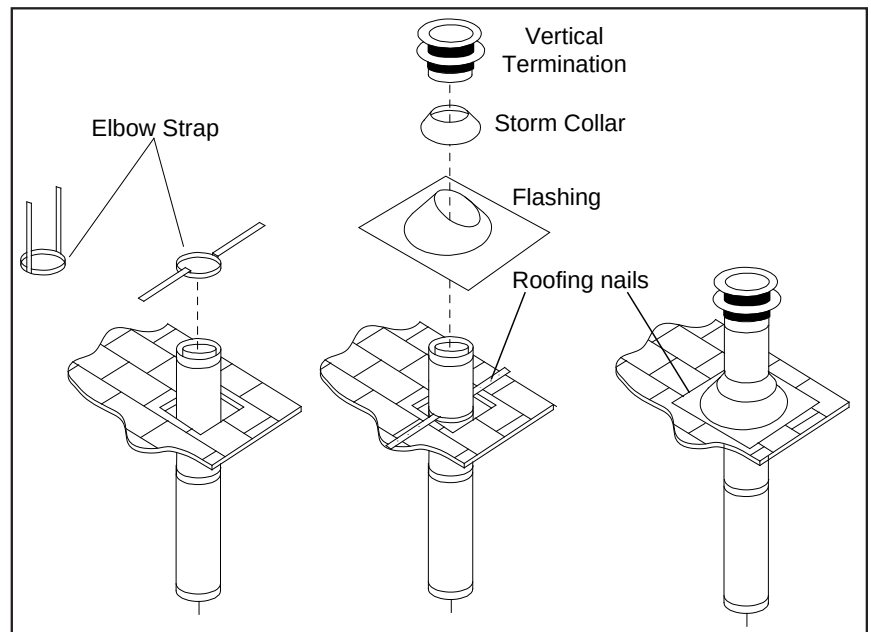

Figure 61: Vertical Vent Termination
- Step 3.** To install the Round Support Box/Wall Thimble in a flat ceiling, cut a **10" (25.4 cm)** square hole in the ceiling, centered in the hole drilled in Step 2. Frame the hole as shown in Figure 61.
- Step 6.** Once the pipe sections have been joined, and run up through the hole in the roof, slip an elbow strap over the exposed sections, bend the support straps outwards, and push the elbow strap down to the roof level, as shown in Figure 61. Tighten the clamp around the pipe section. Use a level to make sure the pipe is truly vertical. With roofing nails, secure the support straps to the roof. Seal the nails holes heads with non-hardening mastic. Trim the excess length of the support straps that extend out beyond the edge of the flashing.
- Step 9.** Slip the storm collar over the pipe, and push it down to the top of the roof flashing as shown in Figure 61. Use the non-hardening sealant around the joint between the pipe and the storm collar.